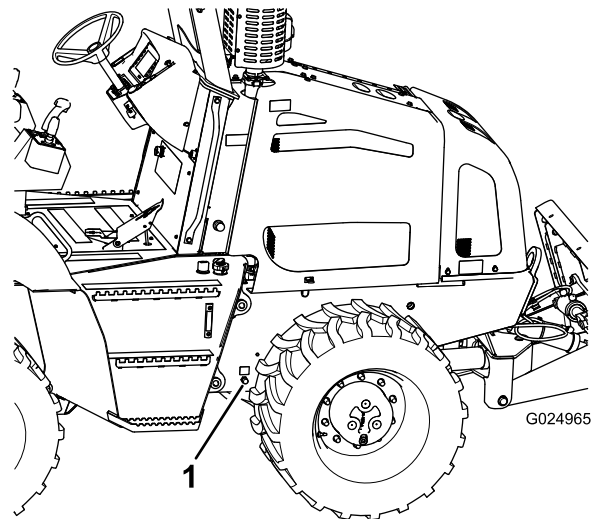

Figure 64
4. Place a drain pan that has a minimum capacity of 20 L (21 US qt) under the engine-oil drain fitting (Figure 64).
5. Remove the cap from the drain fitting and allow the engine oil to drain completely (Figure 64).
7. Install the cap onto the drain fitting (Figure 64).
1. Remove the oil-fill cap from the valve cover by rotating the cap and pulling it upward (Figure 64).